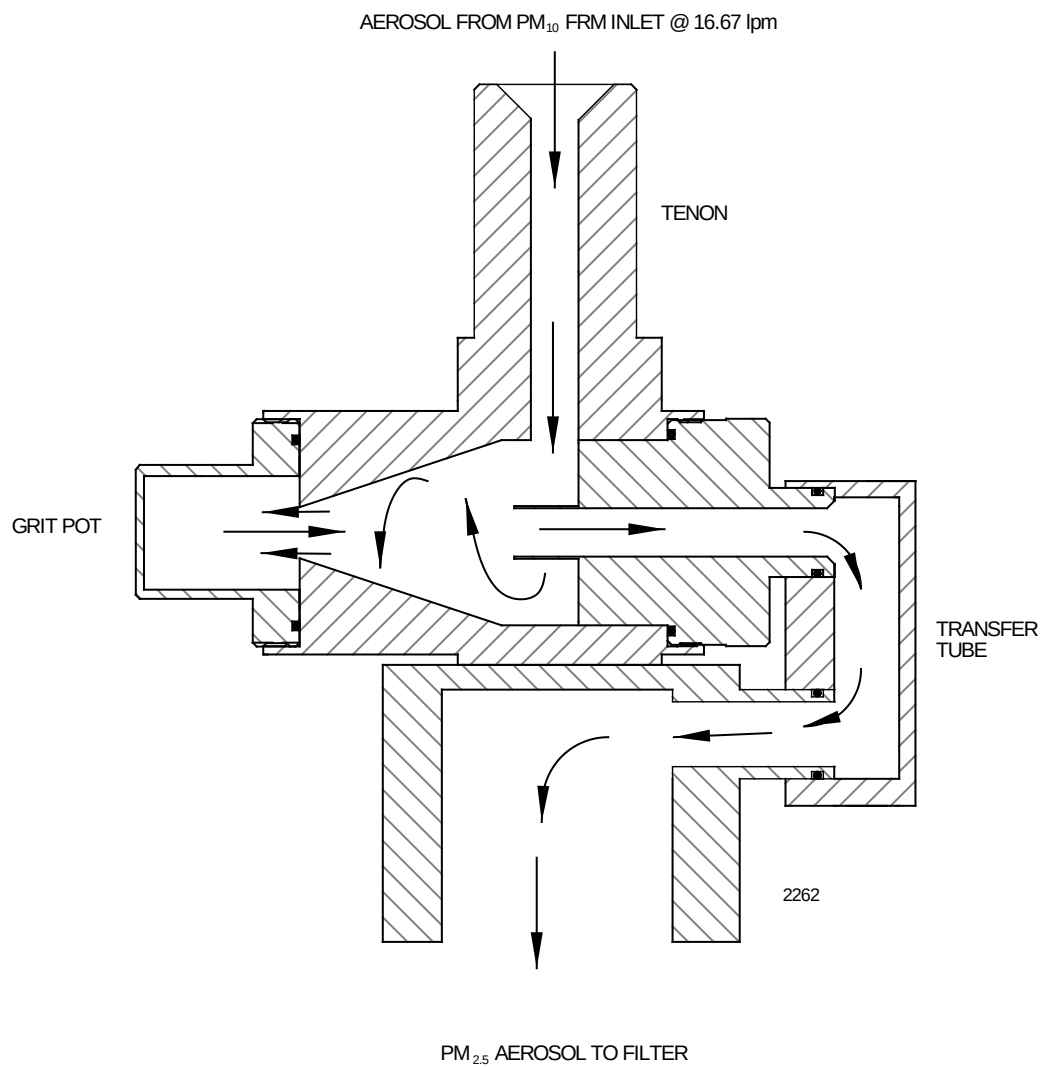

Figure 1: BGI Very Sharp Cut Cyclone (VSCC[®]) Flow Path
BGI manufactures two versions of the VSCC[®]. They are the VSCCA[®], which is a direct replacement for any commercial FRM system utilizing the standard WINS impactor, such as the Rupprecht & Patashnick (Partisol[™]), Graseby/Anderson (RAAS[™] with use of exit adapter 2302). The VSCCB[®] is intended for installation only in the BGI PQ200 and PQ200A FRM samplers. See Figures 1 through 4.
The flow path through a VSCC[®] is shown, in a cut-away view in Figure 1. PM₁₀ "Coarse" aerosol enters tangentially after being pre-separated by the PM₁₀ FRM inlet. Particles greater than PM_{2.5} (MMD-AED) are removed to the grit pot on the side of the VSCC[®] and the PM_{2.5} sample is ducted through the cyclone separator to the filter holder. Field and laboratory tests indicate the VSCC[®] can operate up to a period of 90 days between cleaning frequencies, even in high urban loading sites.
Step 5. Replace the upper WINS housing with the VSCC[®] upper adapter. (See Figure 1 and 4b). The male tenon of the VSCC[®] should pass through the top of the sampler weather seal.